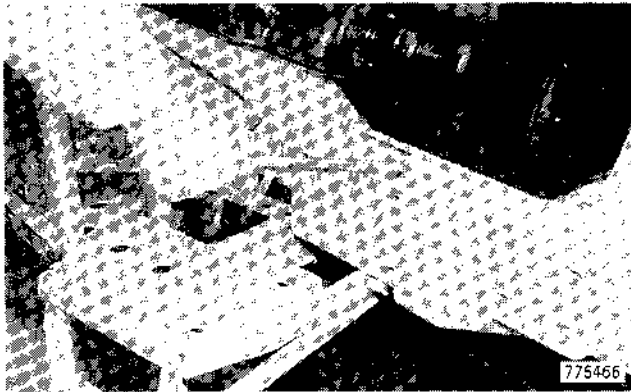

Figure 49
52. Remove the two outer cap screws that hold the front and rear housings together, Figure 49. Remove the four cap screws from underneath the housing. As the two outside cap screws are removed the step will fall down.